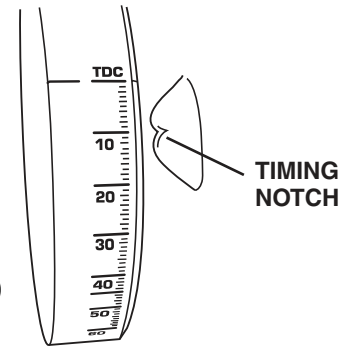

Figure 6.10 – Timing Notch
5. Set timing to 10 degrees BTDC. (Figure 6.10)